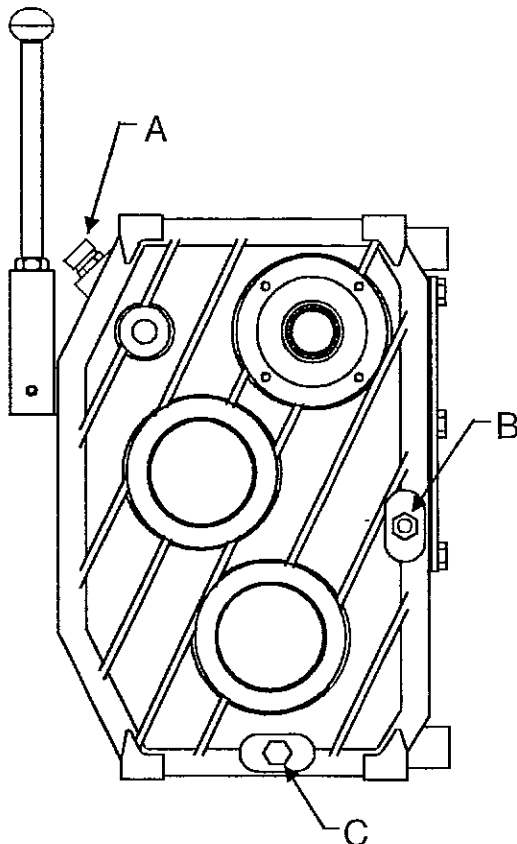

Figure 29. Two-Speed Gearbox.
**2-Speed Gearbox** - Remove the fill plug. Drain the gearbox by removing the drain plug shown in Figure 29-C. Replace the drain plug. Fill the gearbox with SAE 90 weight gear oil through the fill plug (A) until oil is visible in the front sight plug (B).